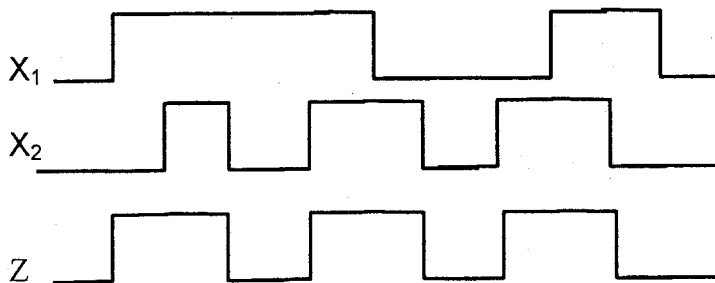

Figure 3 Timing diagram describing the behaviour of an asynchronous sequential system
3. The timing diagram of figure 3 illustrates the behaviour of an asynchronous sequential system
Note : figure 3 is also included on separate sheet for submission with examination script.